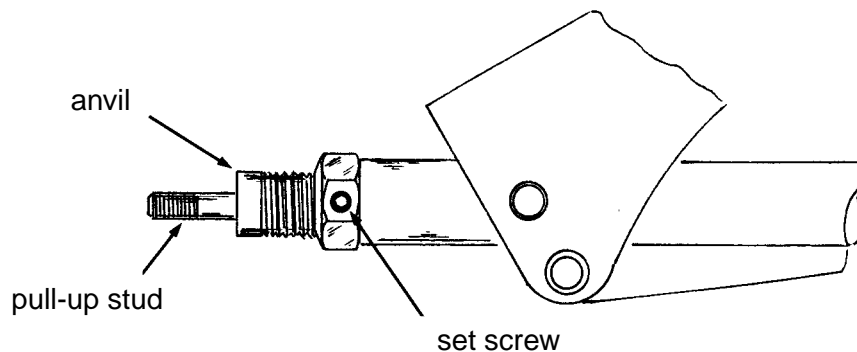

Figure 9 - Adjusting C-6000 Speed Header
5.6.3 Adjust the pull-up stud length on the C-6000 speed header by adjusting the pull-up stud anvil as follows (see Figure 9):